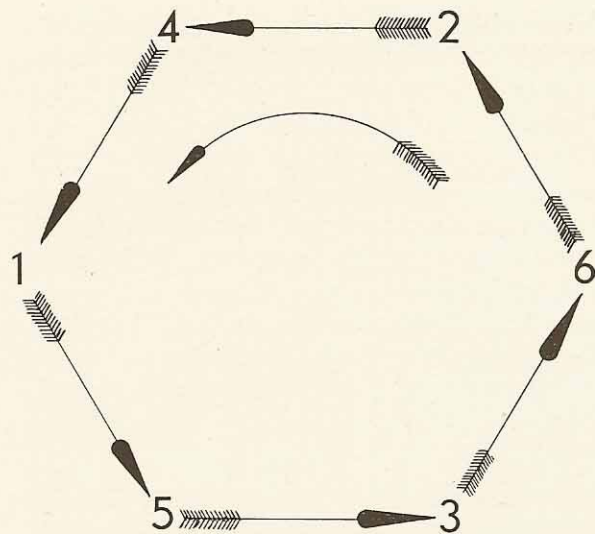

FIGURE 10-7
18. TIMING ROUTINE STARTING AT ANY CYLINDER: This timing routine has been given as starting at No. 1 cylinder. The engine can be timed starting at any cylinder providing the firing order shown in Figure 10-7 is followed in rotation. This timing circle represents two crankshaft revolutions.